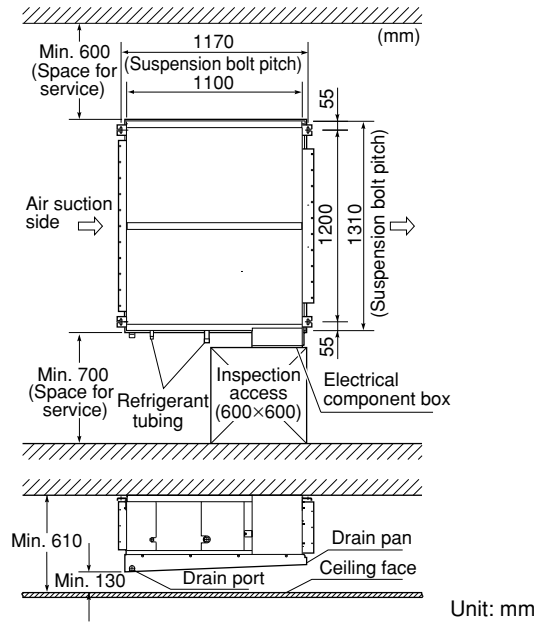

Fig. 3-98a
- The minimum space for installation and service is shown in Fig. 3-98a.